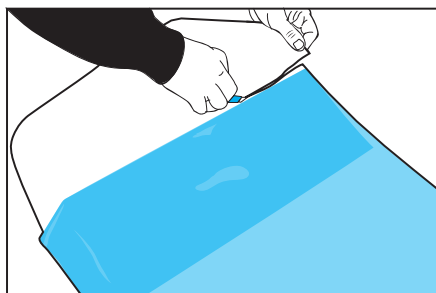

Figure 01
- › Peel off approximately 10 cm (4 in.) of the liner. (FIG. 01).